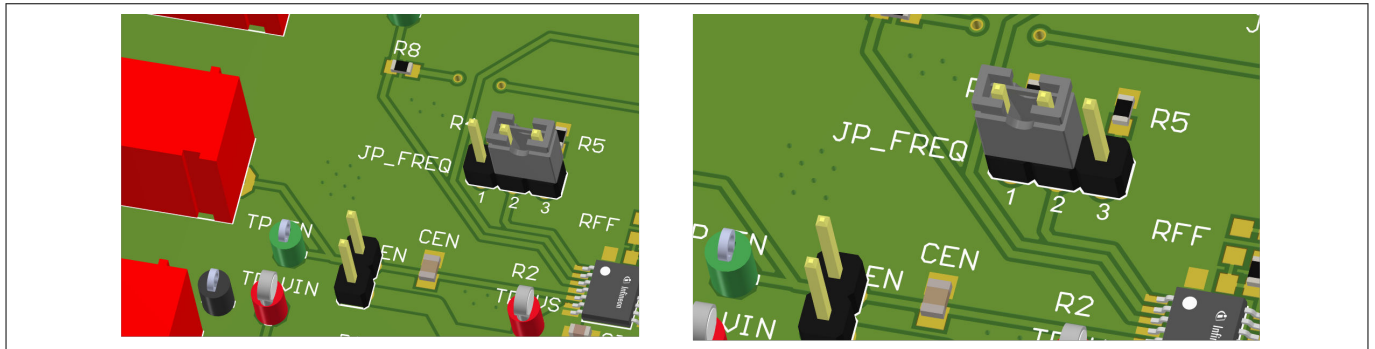

Figure 9 JP_FREQ jumper placement
The jumper shown in Figure 9 sets the switching frequency f_{osc} . The selectable options depend on whether the board is configured for the high switching frequency range (HF) or the low switching frequency range (LF). To allow for different settings than shown in Table 4 and Table 5, change the value of resistor R4 and R5.